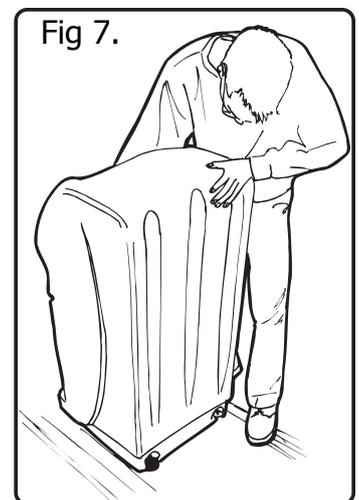

Fig 7.
6. Slide the bin backwards onto the fixing bolts ensuring the bolts are located within the fixing recesses. Fig 7.